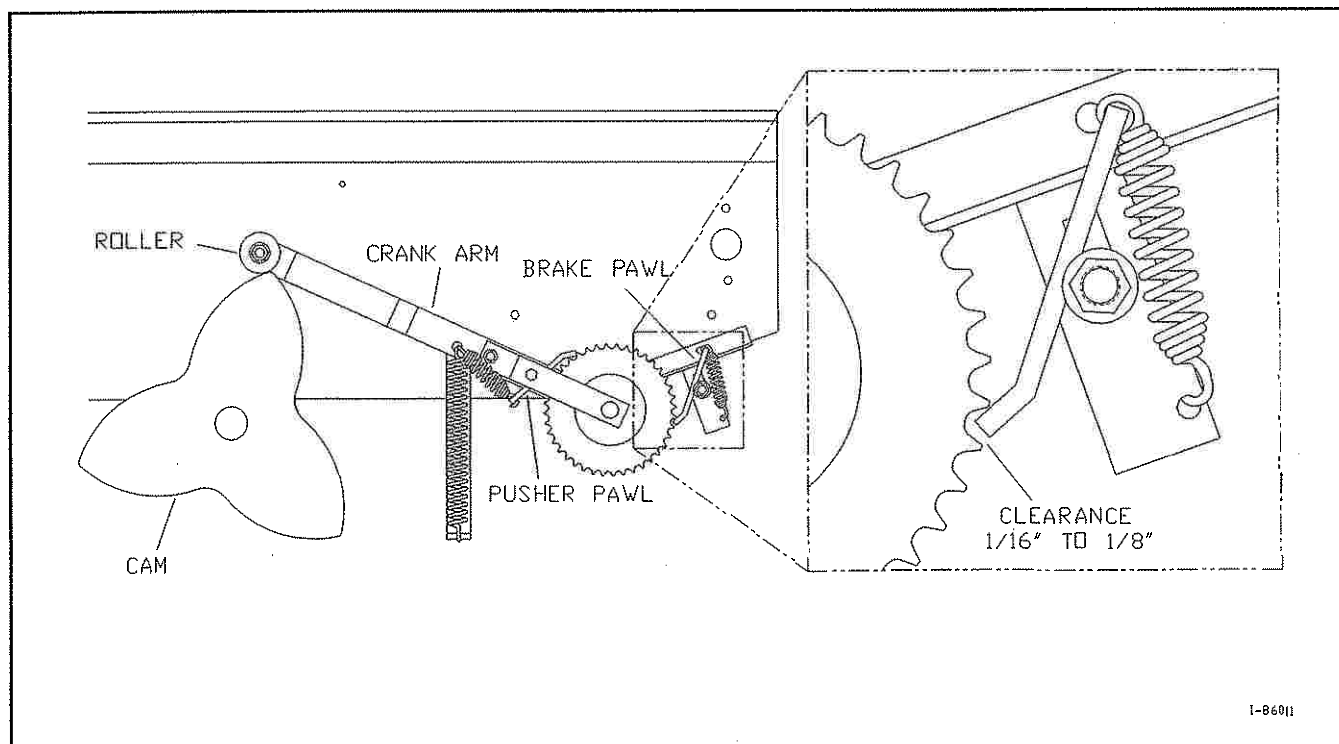

Figure 4B - Adjusting the Rear Brake Pawl
1. Refer to Figure 4B.
2. Remove the shield covering the brake pawl assembly by removing the two (2) bolts, washers, and nuts holding it in place.
4. With the roller positioned at the highest point on the star cam, tap the brake pawl up or down as necessary to attain a 1/16" to 1/8" clearance between the brake pawl and the sprocket tooth (see close-up detail in Figure 4B).